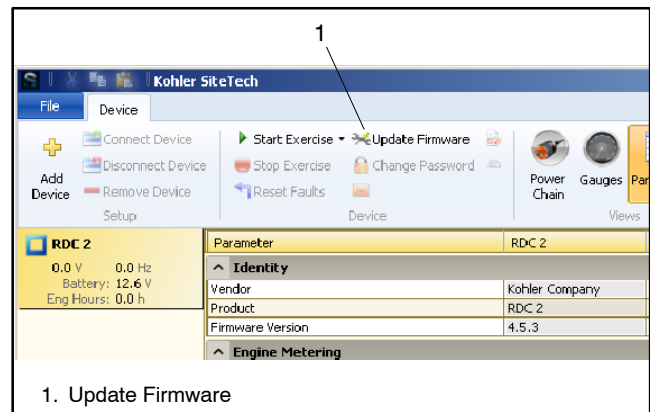

Figure 34 SiteTech Update Firmware Command
4. Click on Update Firmware near the top of the screen. See Figure 34.